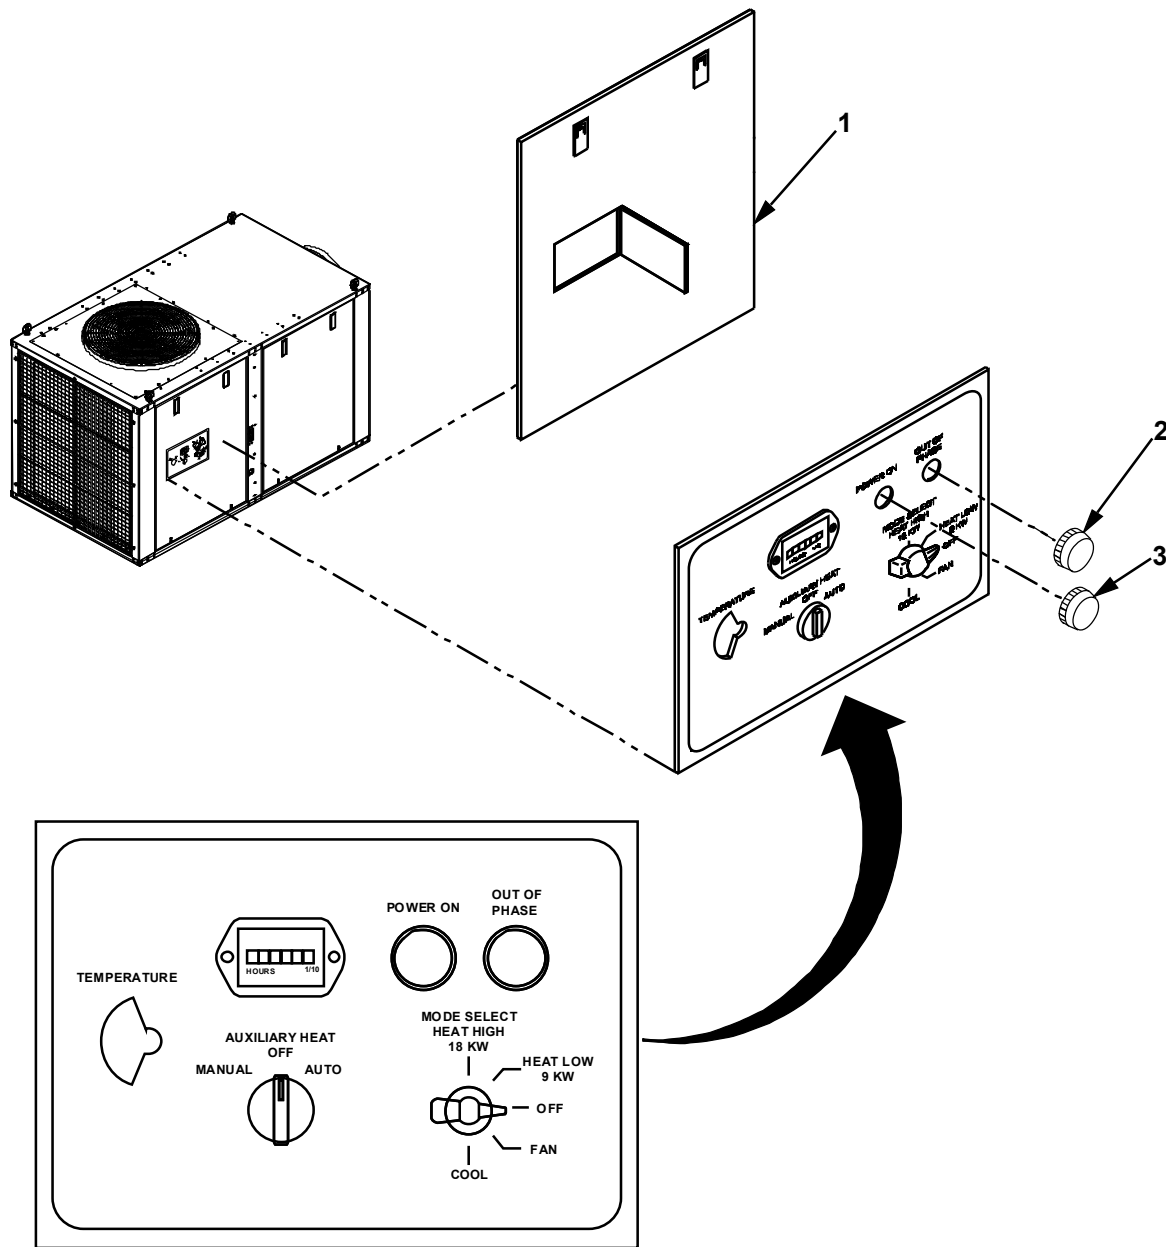

Figure 1. ECU Control Panel Lens Indicator Removal/Replacement.
2. Open ECU Control Enclosure (Figure 1, Item 1).
3. Turn indicator lens (Figure 1, Items 2 and 3) counter clockwise and remove.
1. Align indicator lens (Figure 1, Items 2 and 3) with socket.
3. Close ECU Control Enclosure (Figure 1, Item 1).